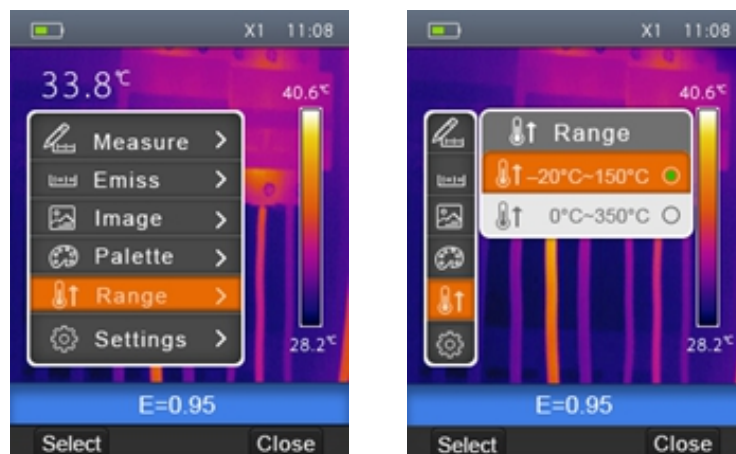

Fig. 22: Setting measuring range on the instrument
1. Select the item “Range” using the keys \oplus or \ominus and press the key $\left[\right]$. The screen Fig. 22 – Right side is shown on the display